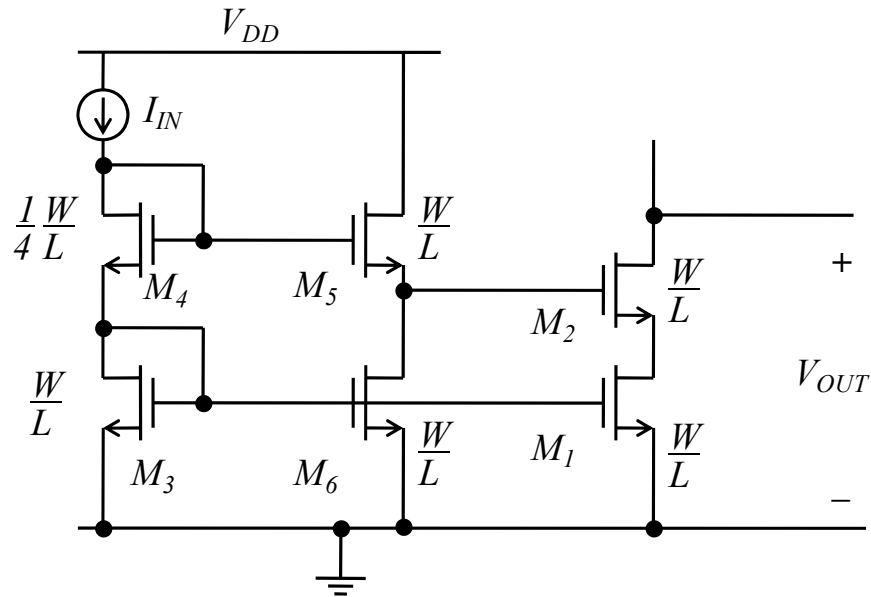

Figure PS5.5
- Design the circuit shown in Figure PS5.5 to meet the following constraints: